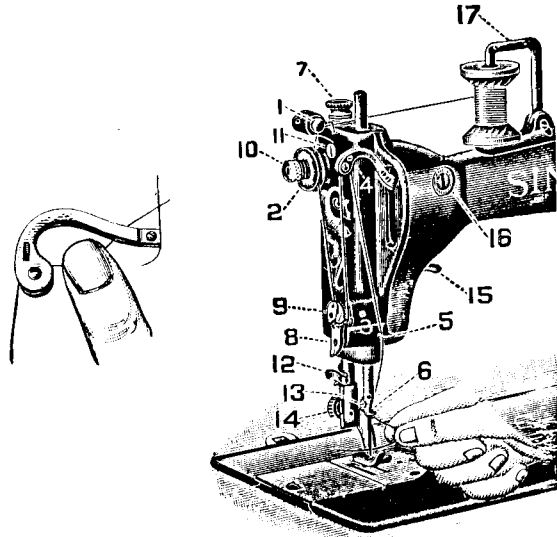
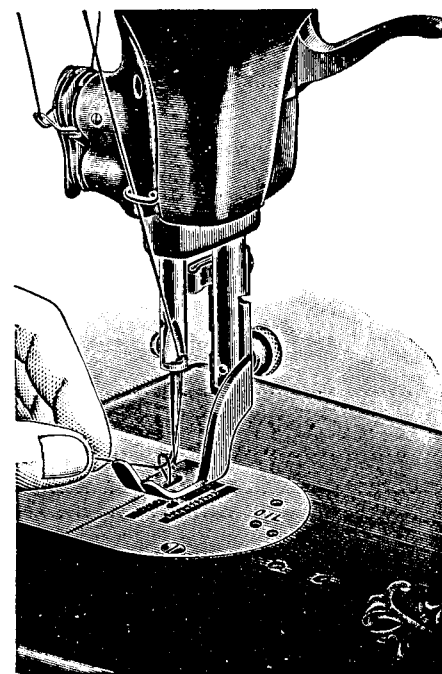
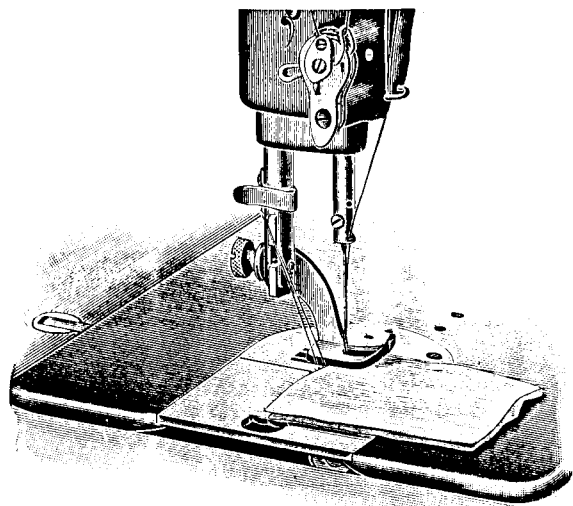

Fig. 5
Fig. 9
Fig. 10
Place the spool of thread on the spool holder, pass the thread under the thread retainer guide wire, into thread retainer (1), down in front and **once around** tension pulley (2), thence under thread controller spring (3) and raise the spring until the thread is caught over the projection above the spring, thence up into take-up lever (4), down into thread guide (5) and needle bar thread guide (6), then thread the needle from right to left as shown in Fig. 5, and when the take-up lever is at its highest position draw two or three inches of thread through the eye of the needle, with which to commence sewing. When using fine silk wind it twice around the tension pulley should it slip without turning the pulley.
Let the thread extend through the needle two or three inches when the take-up lever is at its highest position. Hold the end of the upper thread slack and turn the balance wheel carefully from you while the needle goes down and up, and its point down to the presser foot (see Fig. 5), bringing the take-up lever to its highest position. Keep your feet on the treadle, as foot pressure on the treadle holds the take-up lever at its highest position, then draw the upper thread and the under thread will come up with it (see Fig. 9). Pass both threads back under the presser foot and up into the thread cutter, which will hold them, thus preventing the accidental unthreading of the needle (See Fig. 10).
**Note.** Form the habit of stopping the machine when the point of the needle gets down to the presser foot when held up by the lifter (see Fig. 5), as the take-up lever is then at its highest position, the tension is released, the work draws out easily, and the needle will not become unthreaded when starting to sew, even if only a short end is left through the needle.
Have both threads passed under the presser foot and drawn up into the thread cutter, as shown in Fig. 10, place the cloth under the presser foot and let down the presser lifter. Start the machine by turning the balance wheel from you. Do not pull or push the work, the machine moves it.
The tension on the under thread is regulated by the screw in the center of the bobbin case tension spring, with the small screw driver, turn to the right to increase, or in the opposite direction to diminish the tension. When once properly regulated it will seldom require a change for any kind of thread in common use, as a perfect stitch can usually be obtained by regulating the tension on the upper or needle thread. The upper tension is released and inoperative when the presser bar lifter is raised, and becomes operative when the lifter is lowered; turn the small thumb nut (10, see Fig. 5) in front of the tension spring over toward you to increase the tension or from you to diminish it.
Turn presser bar thumb screw (7, see Fig. 5) inward to make the pressure heavier or outward to make it lighter; the pressure should be only heavy enough to prevent the material from rising with the needle and to insure the feed moving the work along evenly; a heavier pressure would make the machine run harder and be of no benefit.
The function of the thread controller spring (3, see Fig. 5), is to hold back the slack of the upper thread until the eye of the needle reaches the goods in its descent.
To vary the tension of the controller spring, loosen the set screw (above 3, see Fig. 5), remove the face plate, then from the inside turn the stud forward or backward as required and tighten the set screw. In any case where an unusually light tension is used, the tension on the controller spring should be correspondingly light. The coils of the controller spring should be oiled occasionally.